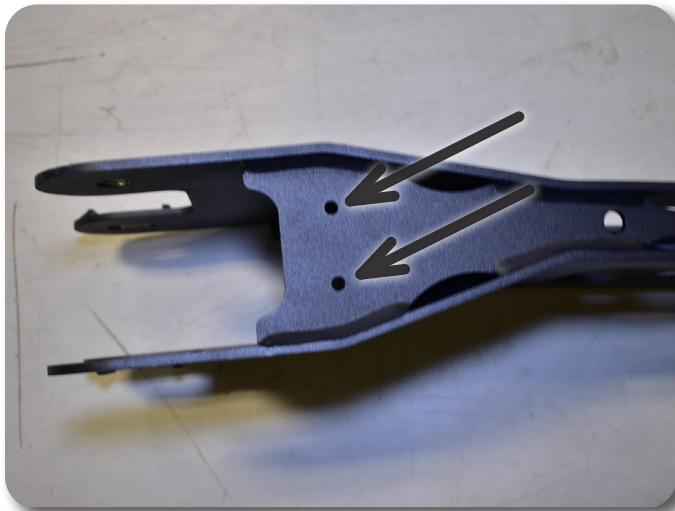

Figure 15
33. Attach the ABS wires to the new radius arms using the provided mountable zip ties installed into the small holes located in the top of the radius arms. Figure 15 Tighten securely and cut off excess zip tie material.